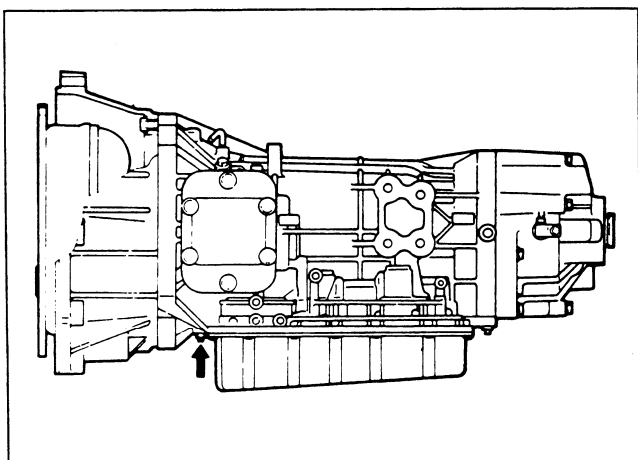

Figure 13. Detection Plug Hole
4. Remove the pressure detection plug at the bottom of the converter housing (figure 13).